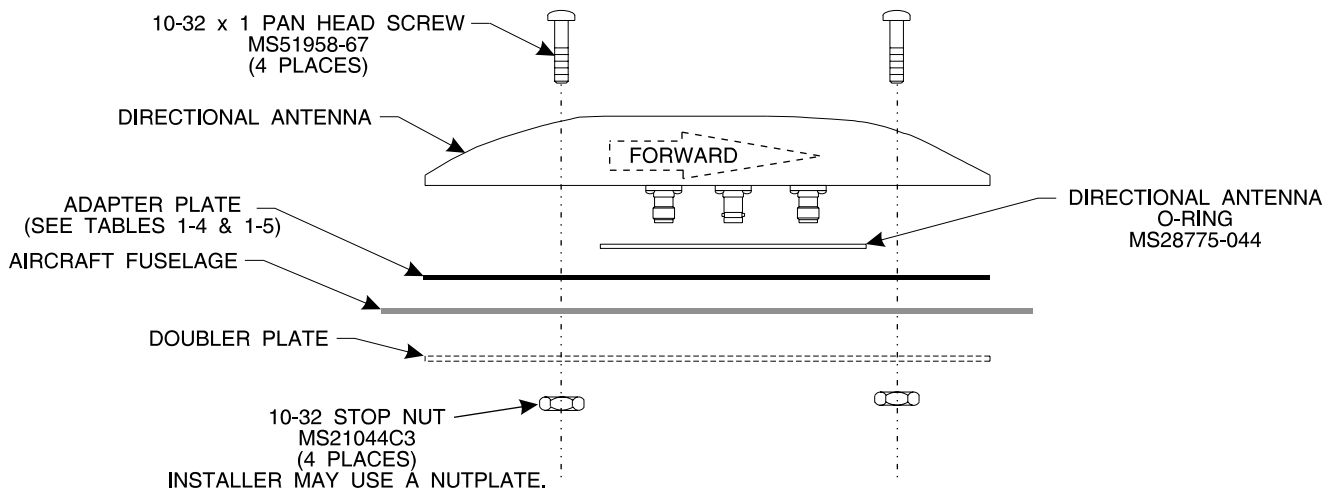

Figure 2-9. Directional Antenna Installation
2. Attach the antenna to the aircraft, with the special adapter plate and o-ring, using 10-32 hardware provided. See figure 2-9.